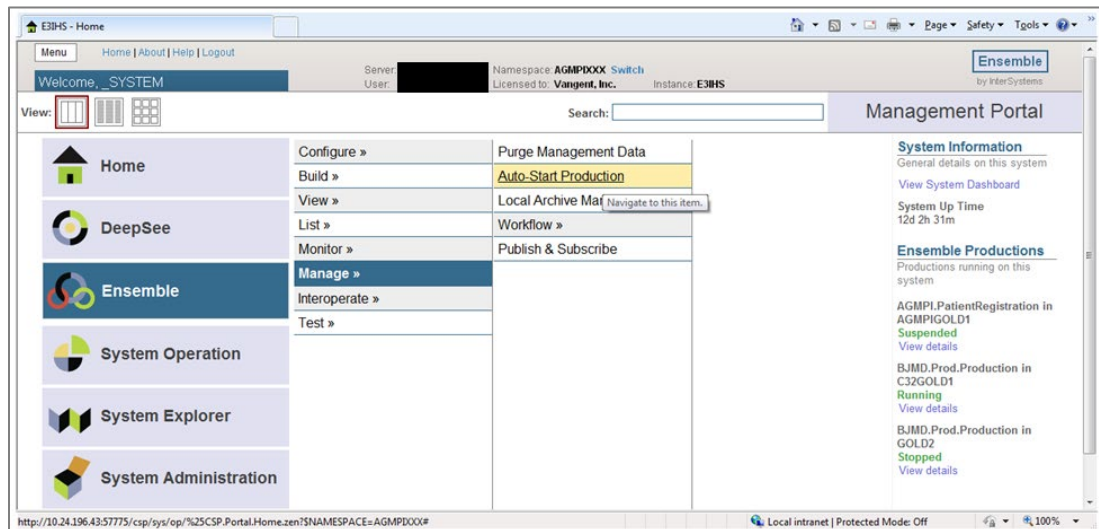

Figure 8-4: Ensemble Manage Auto-Start Production option
3. Click **Ensemble**, then click **Manage**, then click **Auto-Start Production**, as shown in Figure 8-4.